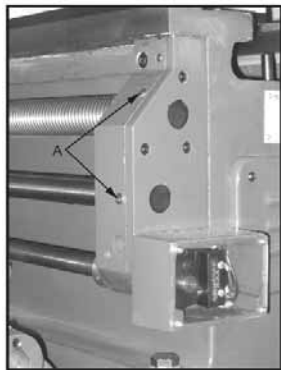

Fig. 6
- Leadscrew & Feed Rod**: Lubricate two ball oilers on the right side bracket (A, Fig. 6) with Mobil DTE® Oil Heavy Medium oil daily.